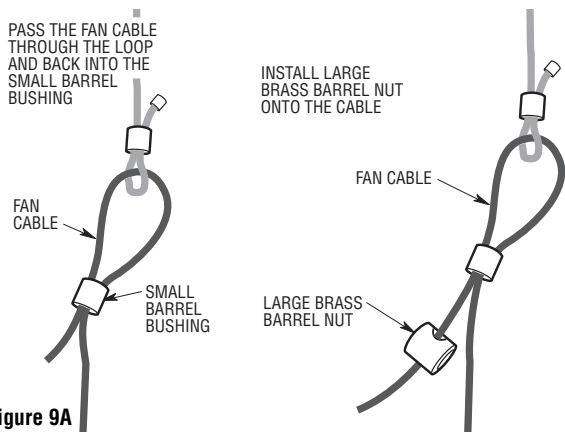

Figure 9A
- 7. Install the end of the fan support cable through the center of the small brass bushing (supplied). Do not allow the bushing to slide down the cable and into the downrod. Now pass the fan support cable through the loop provided on the free end of the ceiling support cable previously installed into the building structure. Next, pass the fan support cable back through the center of the small brass bushing in the opposite direction as the first pass. Pull as much cable as possible through the brass bushing (Figure 9A).